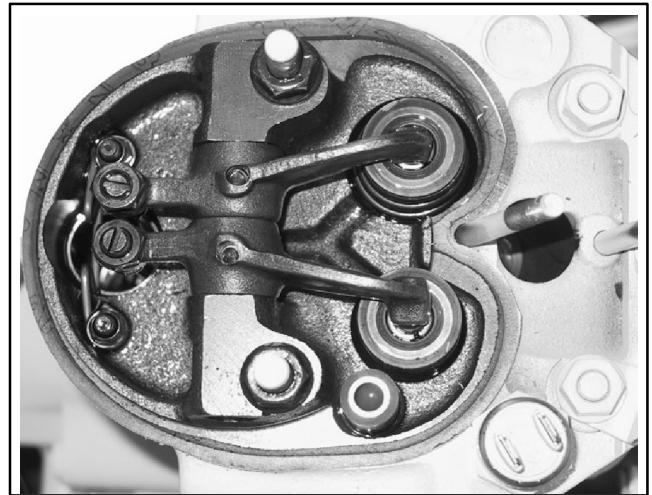

Figure 10-31 Cylinder Head
- Loosen and remove the four cylinder head nuts. See Figure 10-31.